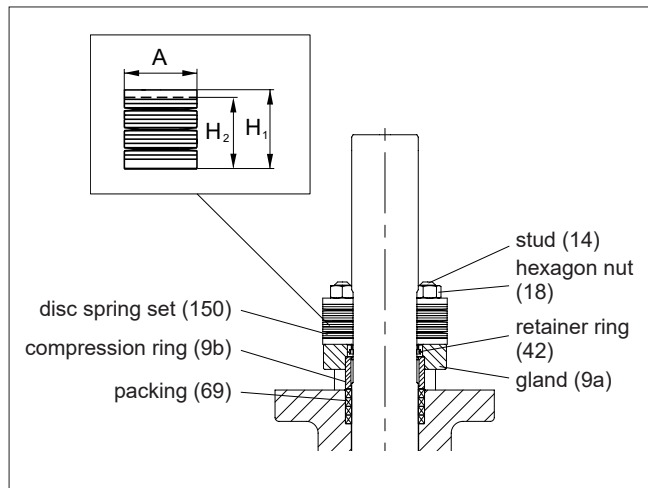

Fig. 18 Gland packing, D1F\_G, D2\_G
- Pre-compress the packing rings first either by tightening the gland nuts (with or without disc springs) to the torque Tt or by tightening the gland with disc springs to the height H2. See Fig. 18 and the value from Tables 2 and 3.